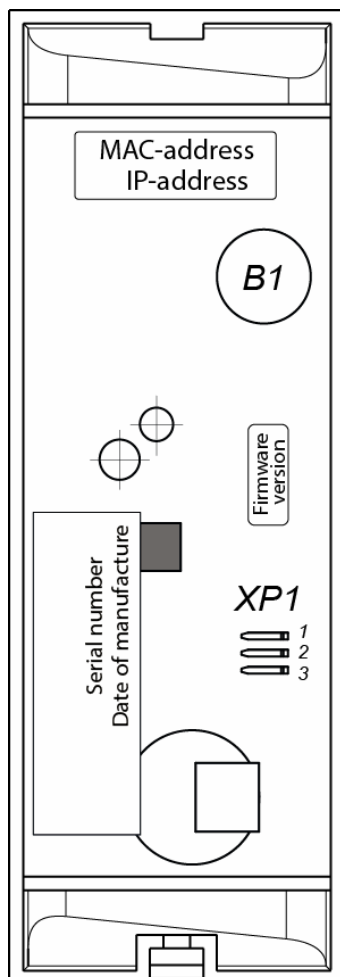

Figure 1. Controller back side outline
Controller IP-address setting method is chosen by jumper installation and removal on **XP1** output on the controller back side. Output configuration is given on Fig. 1.
Controller has a marking label located on the back side of the housing. The location of the label and other markers can be found on Fig. 1. The label features the following information about the controller:
6. Choose controller IP-address setting method (Section 5.5) and install jumper on **XP1** output according to Table 2. if required. Jumper positioning is given on Fig. 1.